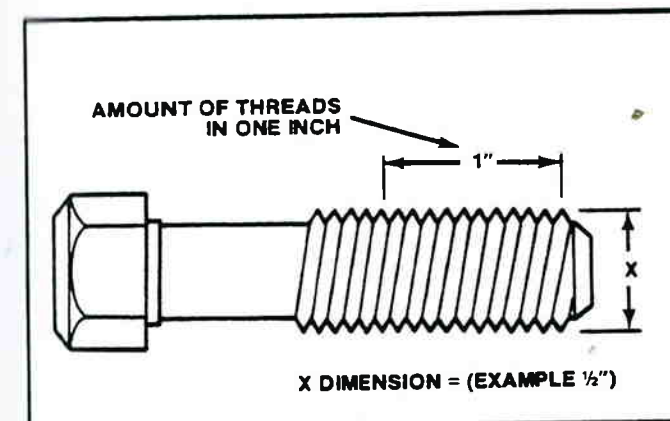

Figure 2-103. Determining Size Of American Standard Fastener.
- a. Measure the diameter of the threads in inches, dimension X (Figure 2-103).
- b. Count the amount of threads there are in one inch (1.0 inch) (Figure 2-103). Example of an American Standard size fastener is .50 - 13. The .50 is the diameter of the fastener in inches (dimension X). The 13 is the number of threads in one inch (1.0 inch).